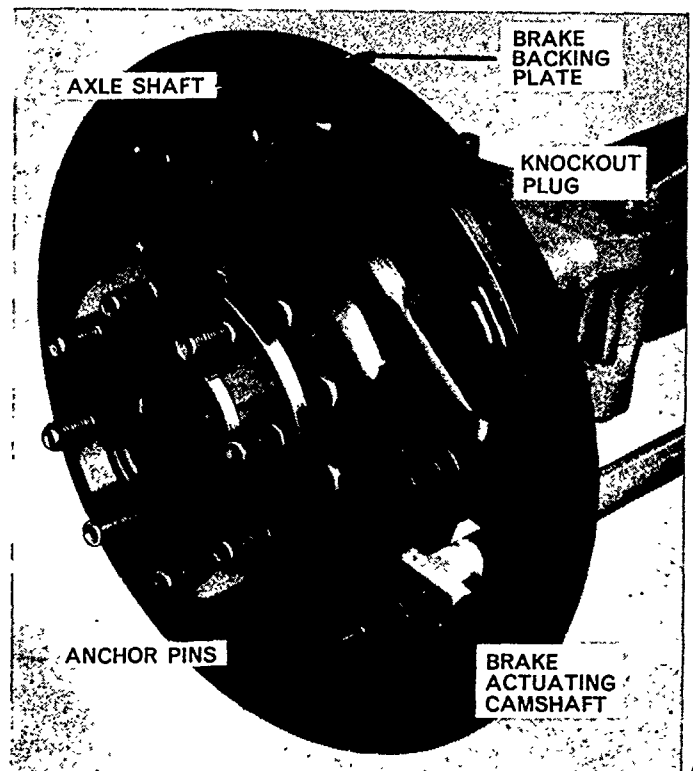

Figure 34
4. If it is necessary to remove any of the wheel bolts, a 'knockout' hole is located in the brake backing plate, Figure 34, to assist removal. A new rubber plug should be inserted in the 'knockout' hole after the new wheel bolt has been installed.